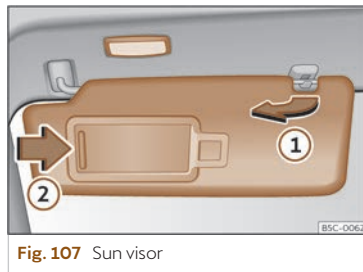

Fig. 107 Sun visor
- The sun visor can be pulled out of its mounting and turned towards the door >>> **Fig. 107 ①**.